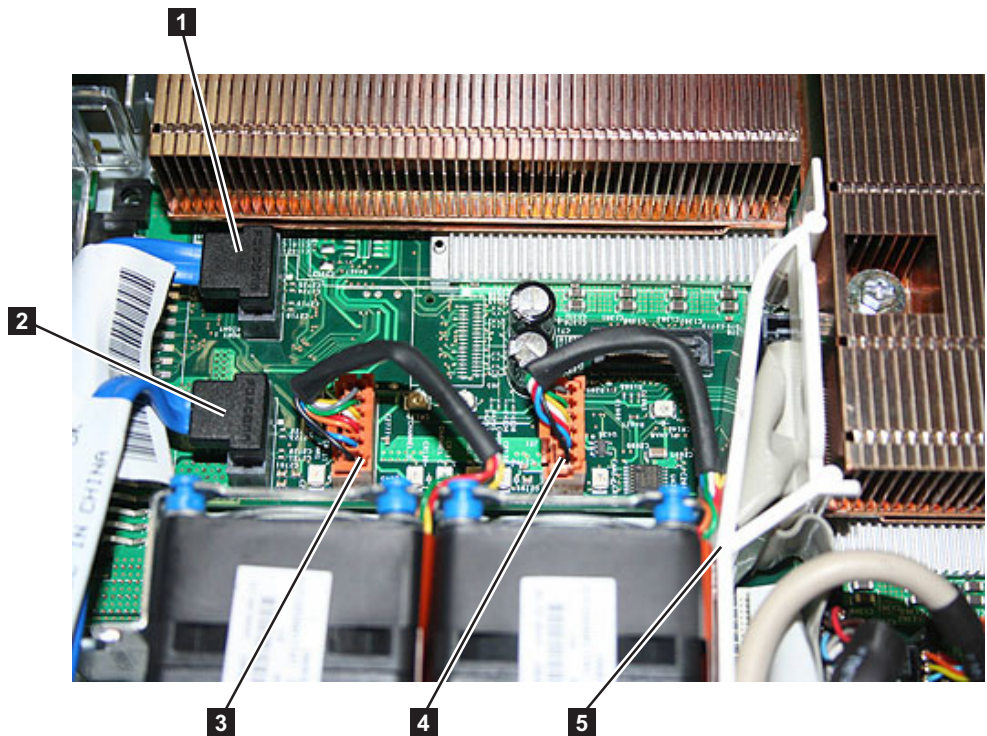

Figure 218. Connectors on the SAN Volume Controller 2145-8G4 system board
13. Replace the cable connectors for fans 2 and 1, as shown in Figure 218.